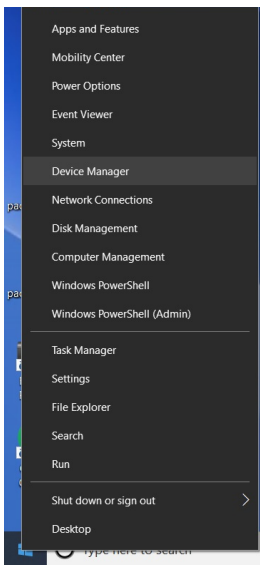

Figure 7: Finding COM Port for HART
1. Right click the Windows Start button and click on *Device Manager* as seen in **Figure 7**.